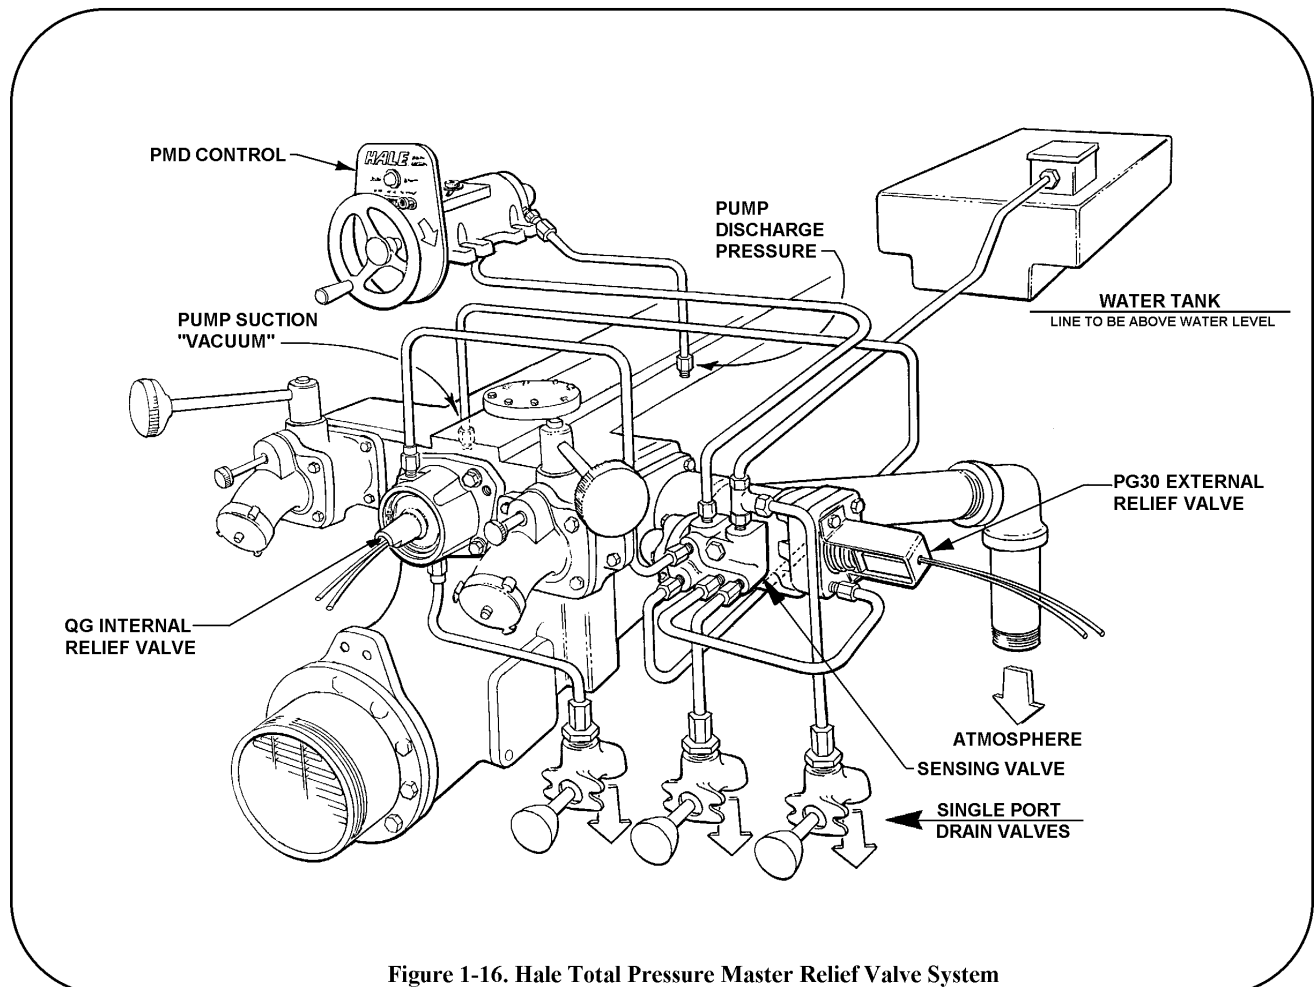

Figure 1-16. Hale Total Pressure Master Relief Valve System
This system, figure 1-16, includes a sensing valve connected to the inlet side of the pump that works in conjunction with a Pressure Master Control on the pump panel to give complete control over the entire system. The operating point is set by the Pressure Master Control. Small changes in pump pressure are normally handled internally by the recirculating relief valve (QG). Large changes on either the inlet or discharge side of the pump are controlled by dumping excess pressure to the atmosphere from the discharge side of the pump through the PG30 Relief Valve.